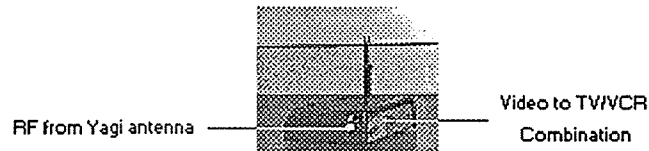

Fig. 5.4 RF and Video connections to UHF receiver
5.1.6. Connect the coaxial cable from the stacked Yagi antenna to the UHF receiver by plugging it into the jack on the right side of the UHF receiver. The location of this jack is shown in Fig. 5.4.
5.1.7 Connect the output of the UHF receiver to the input of the TV/VCR combination. As shown in Fig. 5.4, the output of the UHF receiver is taken from a female "F" connector at the center of its back panel. Fig. 5.5 shows a closeup view of the "F" connectors.